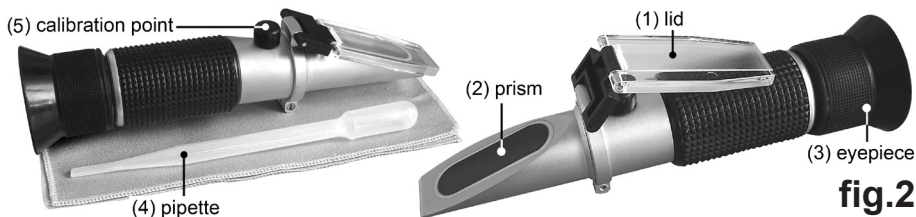

fig.2
2. TEST PROCEDURE (Refer to fig.2)